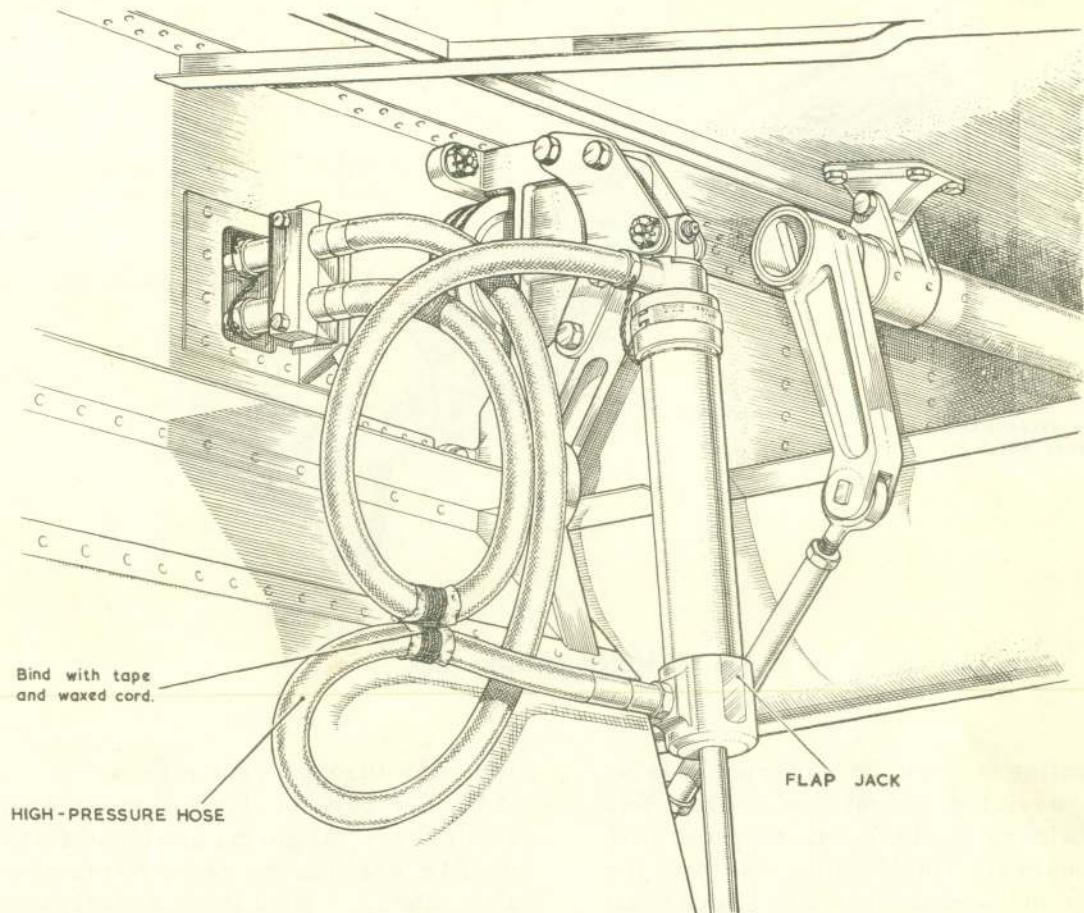

Fig. 6 Flap jack installation
4. There are three positions on the selector lever quadrants, UP-NEUTRAL-DOWN, but to operate the lever, it must first be pressed in. By returning the lever to NEUTRAL, which creates a hydraulic lock, any desired angle of the flap may be obtained, but for flaps fully up or down, the selector lever should be left at the UP or DOWN position. Fig. 6 shows the method of binding the jack hoses so that they do not chafe against the flap or shroud. The jacks are extended when the flaps are down.